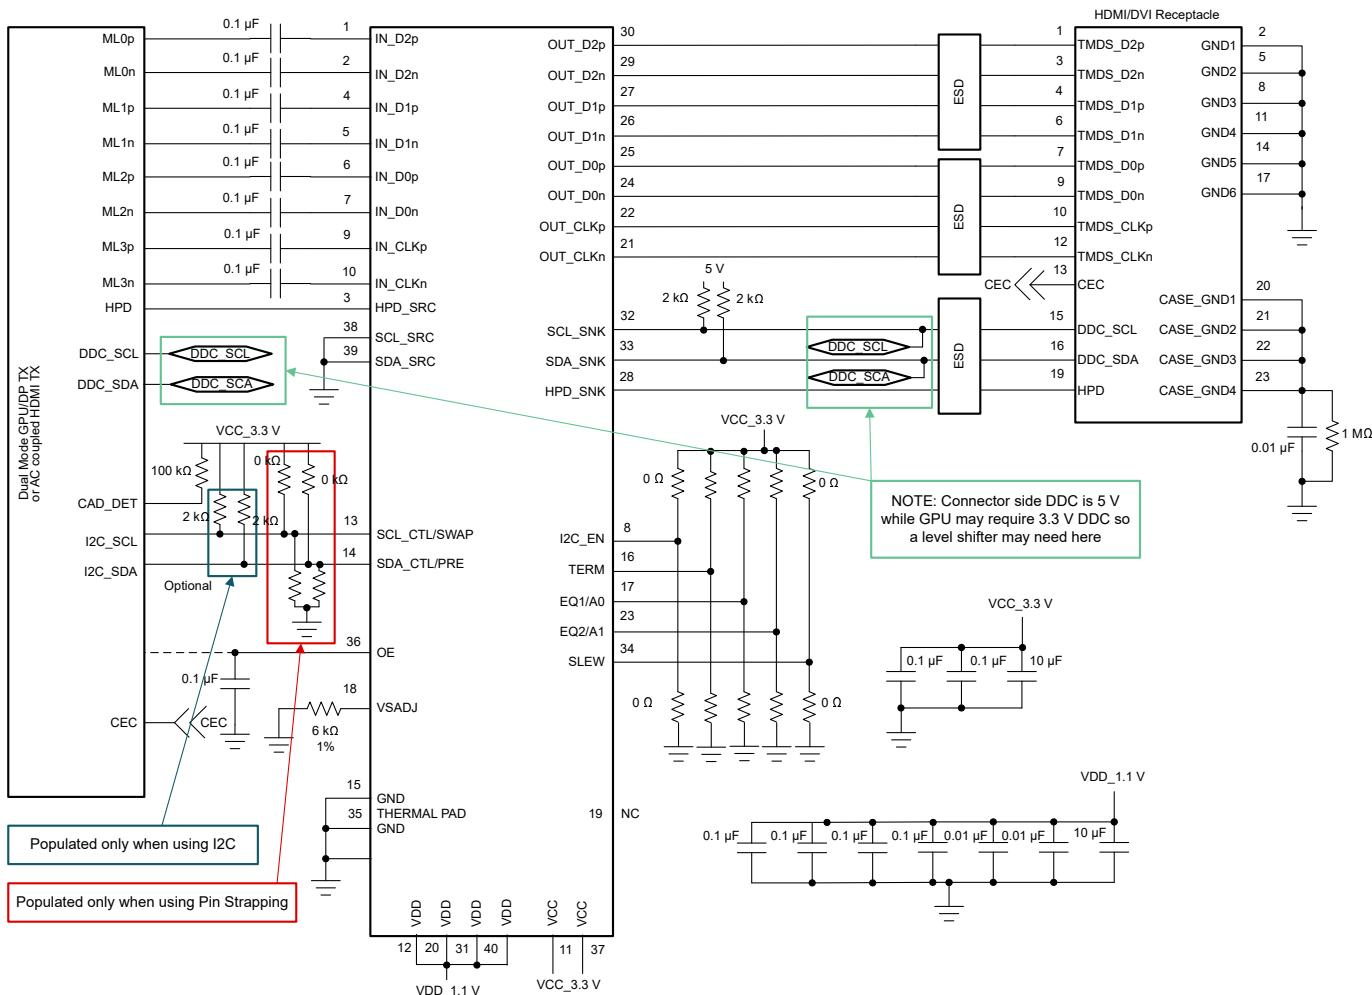

図 8-1. TDP158 in Source Side Application
図 8-1 shows a schematic representation of what is considered a standard implementation.
- Use the typical application 图 8-1 for information on control pin resistors.
- See schematics in 图 8-1 on recommended decouple caps from V_{CC} pins to ground.